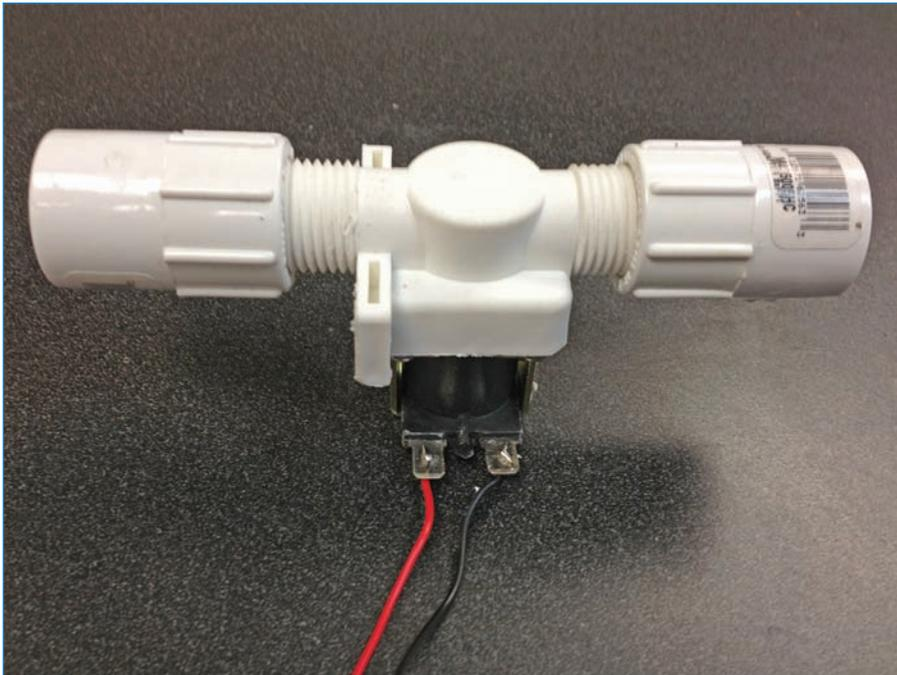

FIGURE 7.12 The solenoid valve, with adapters added to either end.
5. Now work on the valve: Screw the two threaded adapters onto the ends of the valve, as shown in Figure 7.12. Note that the PVC threads aren't really intended for repeated opening and closing: After you tighten the threads, unscrewing the adapters will be very hard, so be absolutely certain you're ready to commit!